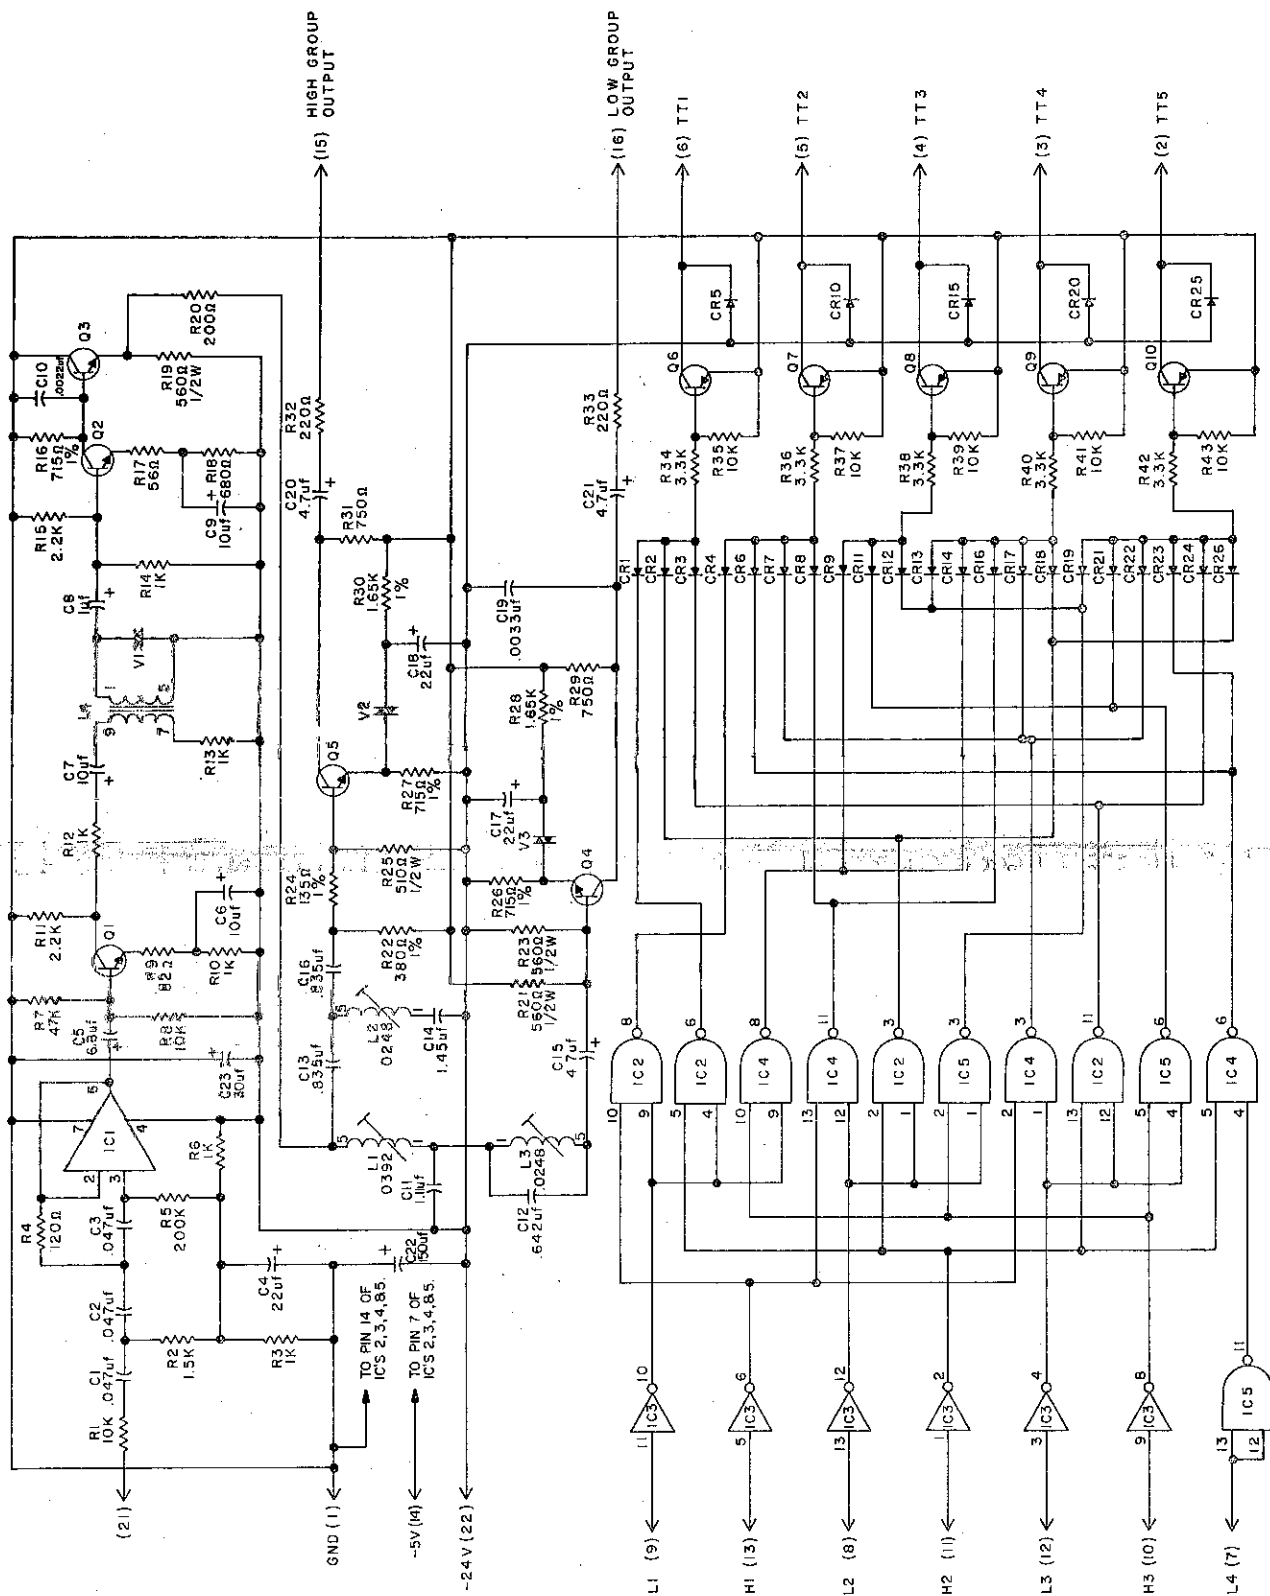

Fig. 6 - Circuit Diagram, K1608 KTU
2.06 K166B Pushbutton (Tone) Dial Translator Card. One is used per system in conjunction with a K166A Detector Card to adapt intercom system to accommodate pushbutton dialing. Approximate dimensions in inches are 5 3/8" W x 5 5/8" L x 1 1/4" D. (22 dual contacts.) See fig. 6.